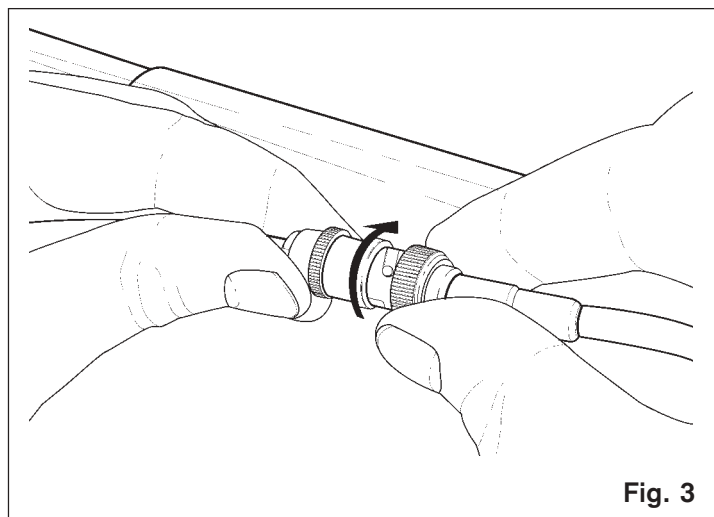

Fig. 3
- ◆ Open the lid of the carrying case and remove the antenna and antenna support tube from its holder in the lid. Open the inner pouch to access the antenna cable. Connect the BNC plug of the antenna cable to the BNC jack from the control box - Fig. 3.